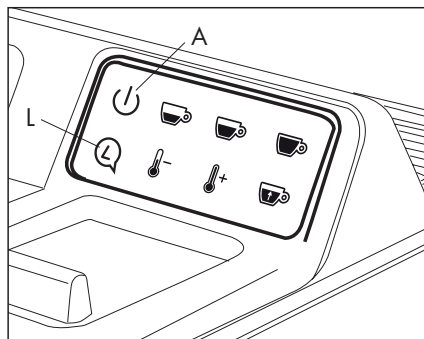

Fig. 9
- Press button (L) to select the language.
- (Fig. 9)